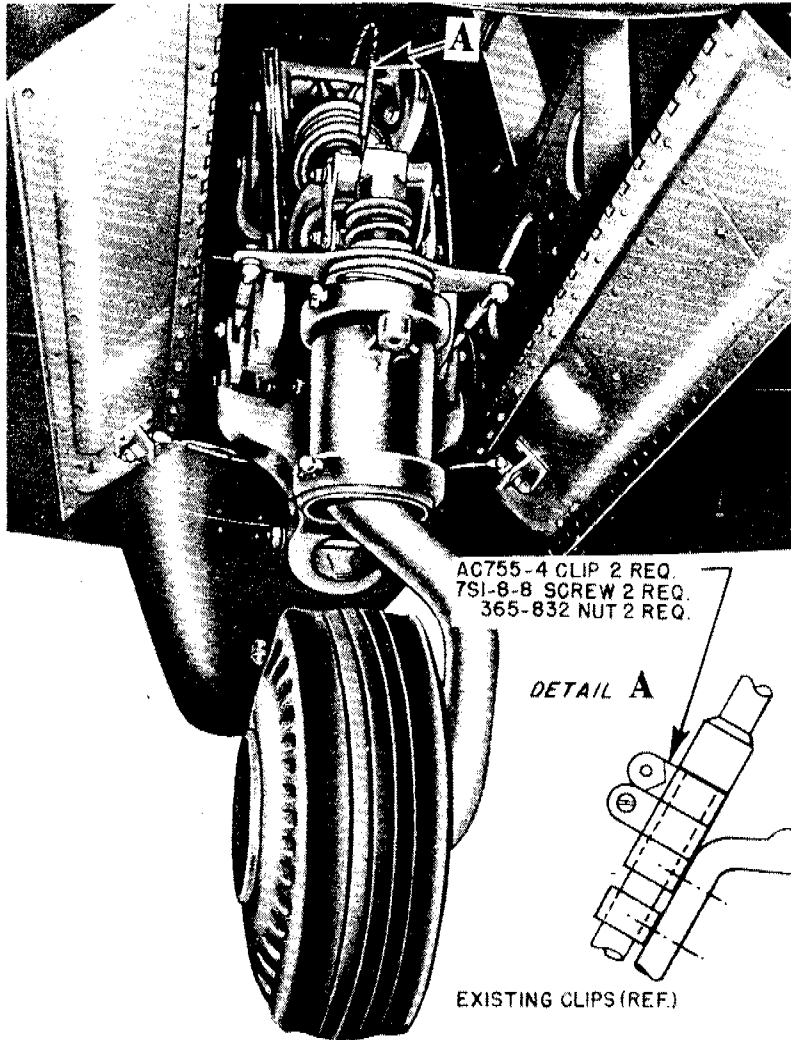

Figure 2
(7) Reaching up through the fairing doors for the tail wheel, install two new clips, part No. 755-4, on the casing of the control cable which actuates the declutching mechanism for the steerable tail wheel. (See figure 2.) The clips will be installed immediately above the existing clips and below the flanged edge of the casing for the cable. Secure the clips with one each screw, part No. 7S1-8-8, and nut, part No. 365-832.